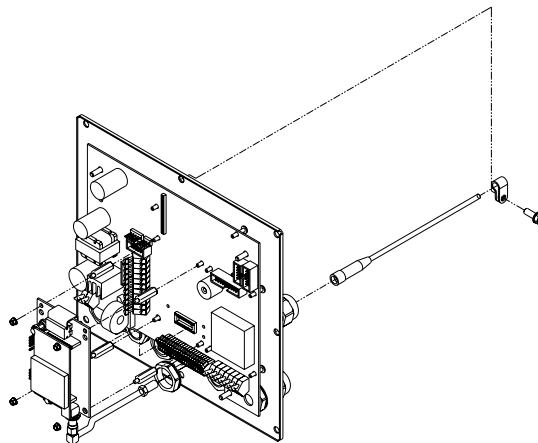

Figure 10-24: 560 and 660 RF Module Installation
2. Remove the (8) rear panel screws from the back plate of the enclosure and set it aside.
4. Since two SBM type modules can be installed in a 560 or 660 Series indicator, the left most option installation posts will be used. Screw the (4) 17-20-3019 nylon standoffs on the four posts on the main board. Refer to Figure 10-24.